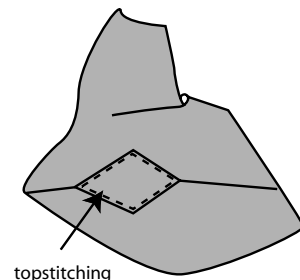

Figure 37
5. To strengthen gusset, especially on sporty or casual clothes, topstitch through all layers of fabric approximately 1/8 inch from seam on outside section of gusset construction (Figure 37).